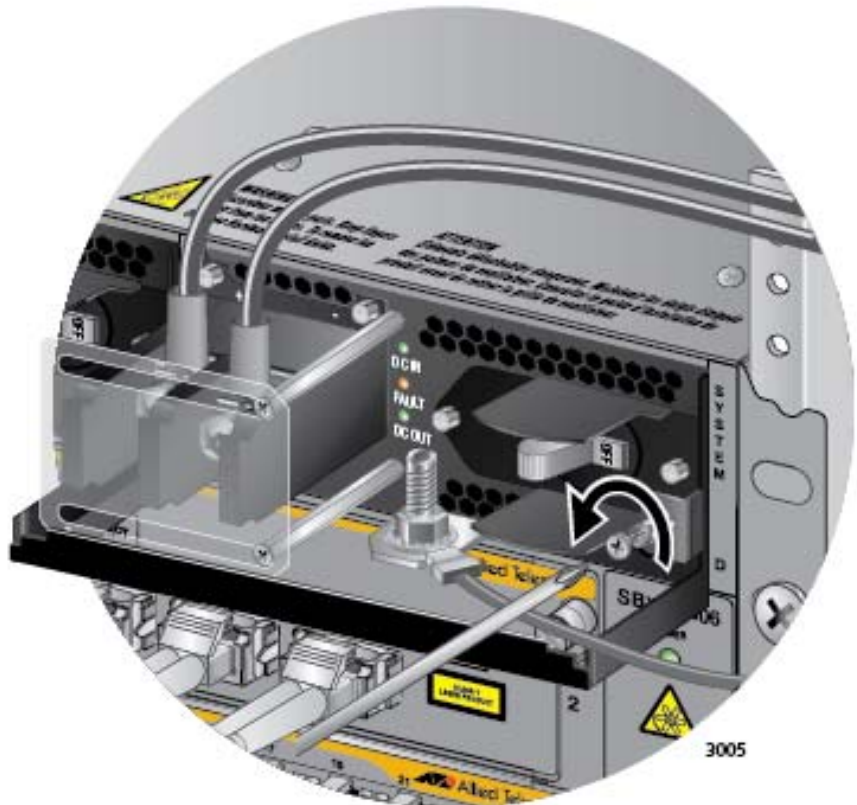

Figure 161. Loosening the Screw on the Locking Handle
3. Use a #2 screwdriver to loosen the screw on the locking handle. Refer to Figure 161 on page 263.